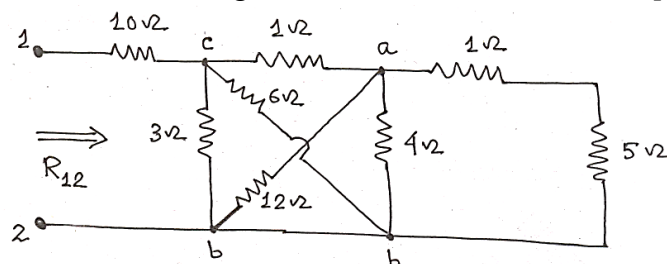

Fig. 1.1
5. Find equivalent resistance  $R_{12}$  in figure 1.1.